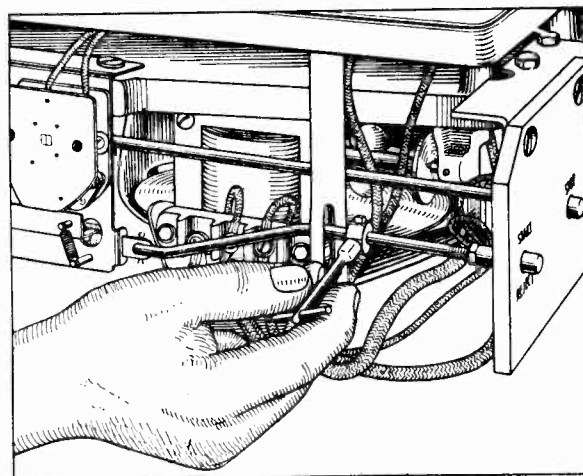

Fig. 16—Adjusting Reject Collar
b. If the condition is not yet corrected, loosen the set screws in the collar as shown in Fig. 16, using a socket wrench such as part 53306, and set the collar approximately $\frac{3}{8}$ " away from the trip lever. Re-tighten the set screws.